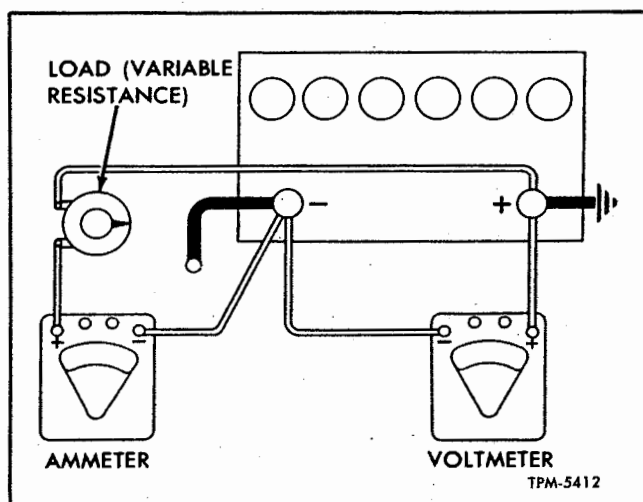

Figure 17—Battery Capacity Test (Typical Hook-Up)
1. Connect positive voltmeter and ammeter leads to battery positive post and negative voltmeter and ammeter leads to battery negative post (fig. 17). NOTE: Ammeter cable clips must contact battery posts; voltmeter cable clips must contact battery post or cable clamp, not the ammeter cable clips.